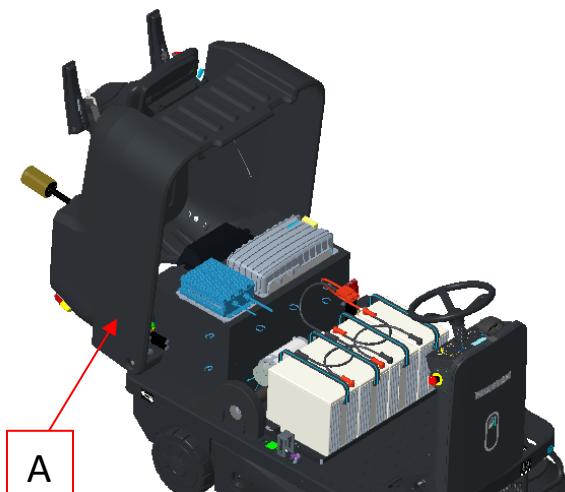

Figure 55
2. open the machine cover (A, Figure 55) carefully.